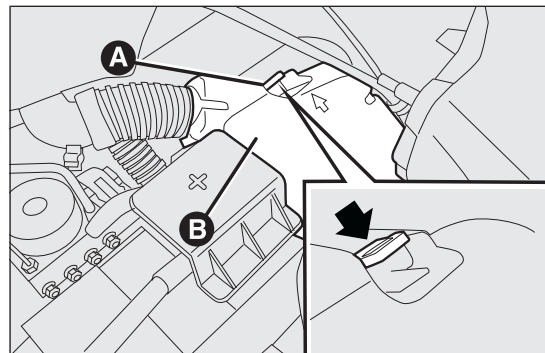

fig. 159
- ☐ press the tab A fig. 159 and remove the fuse box protective lid B;
- ☐ move the lid towards the headlight, turning it anticlockwise (as shown by the arrow) and then remove it fig. 159;